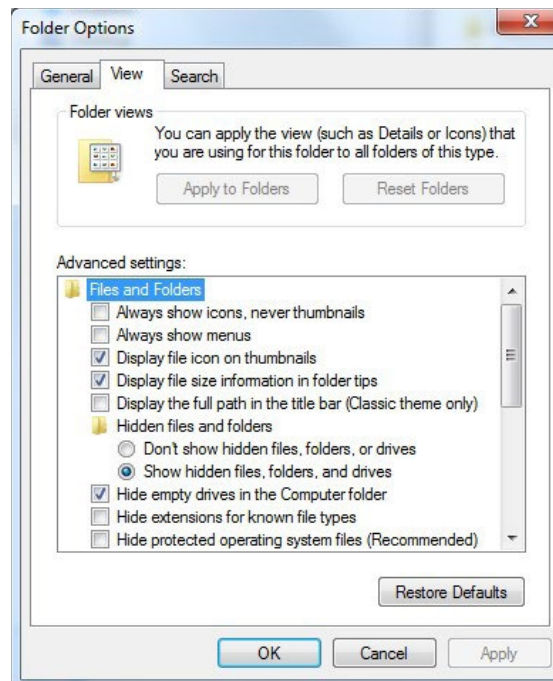

Figure A.2. Folder Options > View > Files and Folders.
1. Select Organize and then Folder and search options. (See Figure A.2.)